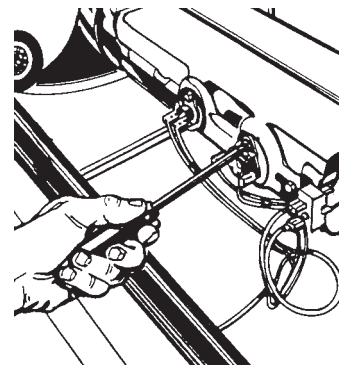

Fig. 4-30
5. Remove screws to high limit thermostat or thermal cutoff. (Fig. 4-30) Remove high limit thermostat or thermal cutoff.